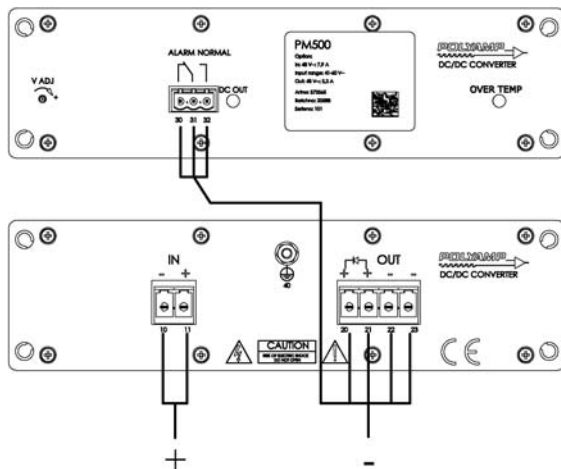

Figure 7. Input to output isolation voltage test.
4. Connect your isolation tester between input and output. See Figure 7.